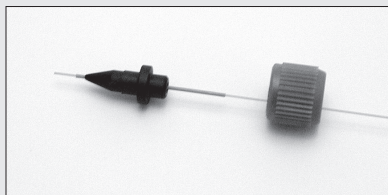

Figure 5.22 Fitting nut, MicroFerrule, and sleeve threaded by PicoTip
2. Thread the end of the PicoTip tubing through a green MicroTight sleeve (Upchurch P/N F-185), which is used for assembly with 360  $\mu\text{m}$  OD tubing. Make sure the PicoTip does not extend past the tubing sleeve end that will be inserted into the microtee. Thread the sleeved PicoTip through the fitting nut and a black MicroFerrule, as shown in Figure 5.22.